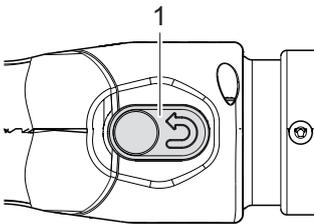

Fig. 17: Reset button
2. Press firmly on the reset button (Fig. 17/1).